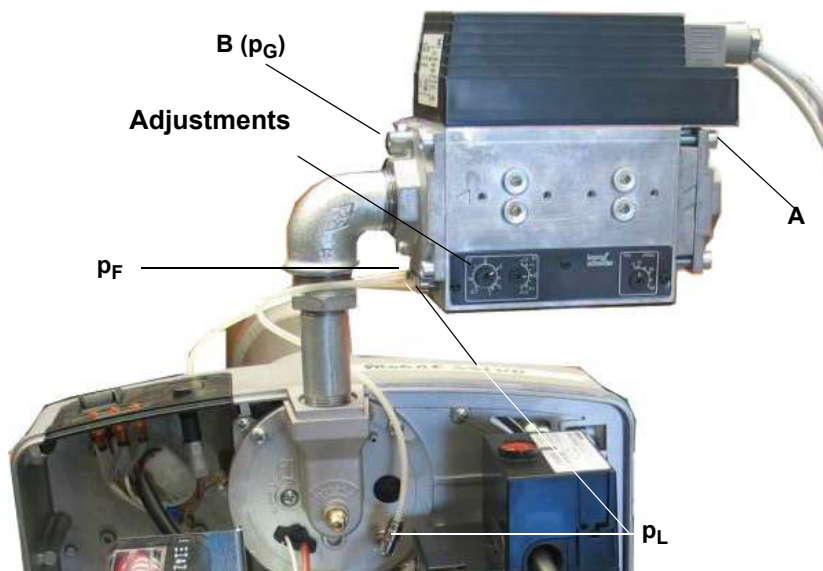
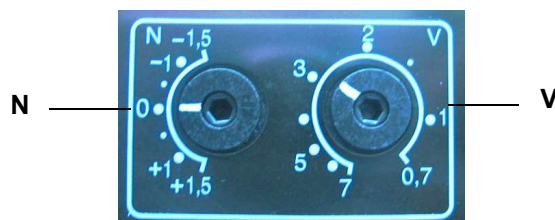

Fig. 22
Fig. 23
Transmission ratio **V** (see pictures Fig. 22 - Fig. 23)
- 1 Start burner with low fire: if the burner does not start, turn **N** (see picture Fig. 23) slightly in the direction + and repeat the start.
- 2 Test gas pressure  $p_G$  at **B** (see picture Fig. 22).
- 3 Test air pressure  $p_L$  (see picture Fig. 22) at the burner and adjust the gas pressure at **N** according to the specifications of the burner manufacturer.
- 4 Set the burner gradually to high fire and adjust the gas pressure at **V** (see picture Fig. 23) in accordance with the boiler input.
- 9 Repeat analysis with low and high fire; if necessary, correct **N** and **V** (see picture Fig. 23) .
Do not block connection  $p_F$  if not used (see picture Fig. 22).
**V** = Do not set transmission ratio to high! The gas pressure at **B** is smaller than the gas pressure at **A** (see picture Fig. 22) minus the
- 2 Measure the gas pressure at **A** and **B** (see picture Fig. 22).